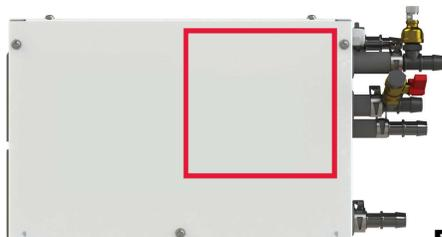

Figure 18
2. Secure the expansion bottle using either self-tapping screws driven into the dimples in the area of the Aqua-Hot shown in Figure 18, or mounting hardware specific to the mounting location in the coach. Please only use the length of hose provided, or less, if the bottle is not mounted to the side of the Aqua-Hot. Additionally, there should be a gradual rise from the Aqua-Hot to the expansion bottle if it is not mounted to the Aqua-Hot.